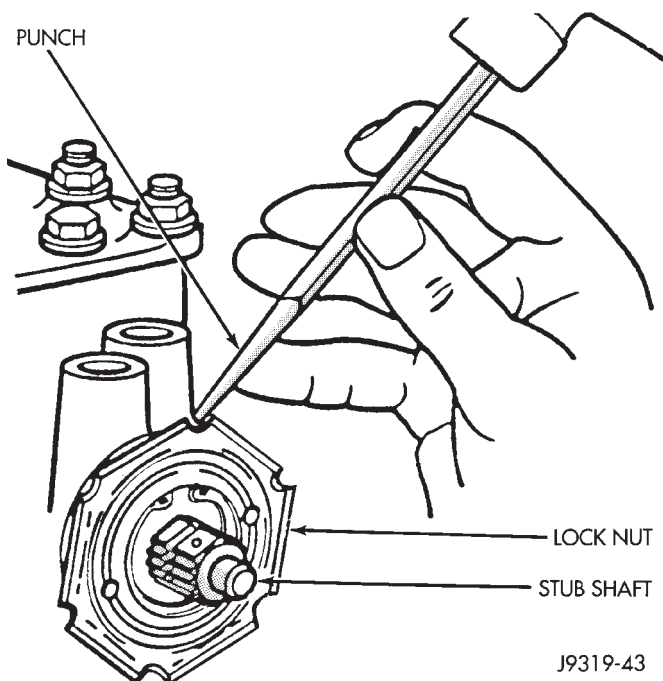

Fig. 24 Loosening the Adjuster Plug
- (1) Mount the gear in a vise.
- (2) Remove adjuster plug locknut (Fig. 24).
- (3) Rotate the stub shaft back and forth with a 12 point socket to drain the remaining fluid.